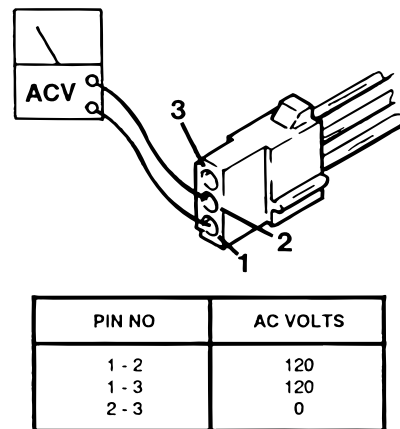

Figure 6-11. Connector CN15
3. Use a voltmeter capable of measuring 120VAC and measure the following connector pins in connector CN15. See figure 6-11.
3. Use the R x 100 scale of the ohmmeter and touch pins 2 and 3 of connector CN15. See figure 6-11.